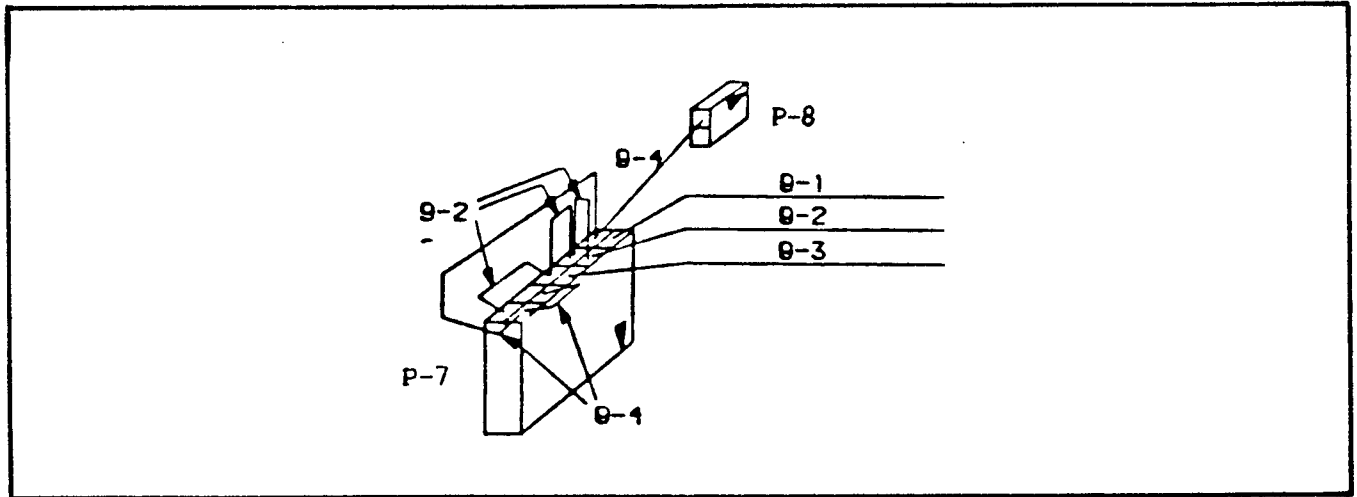

Figure 1a.
The wire harness shown in Figure 1a is currently used for both versions of the non-LSI boards. Following is the procedure for connection of this wire harness.
- 1) Place P-7 of this wire harness (shown in Figure 1a) on the board so connector pins 1 through 5 go over the square pins which connect to edge connector pins 2 through 10.
- 1) Place P-7 of the wire harness (shown in Figure 1a) on the board so connector pins 1 through 5 go over the square pins as shown in Figure 5.